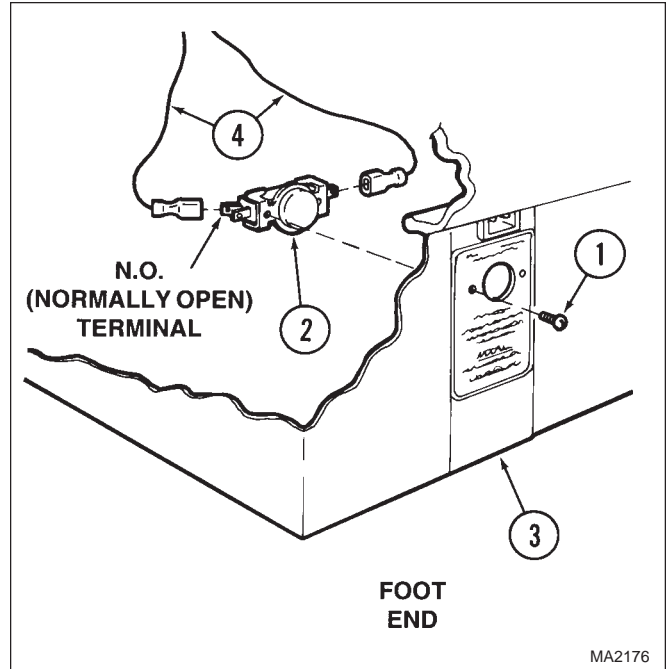

Figure 4-53. Emergency COMPUTER CONTROL OVERRIDE SWITCH Removal / Installation
- (1) If possible, operate the surgery table to raise the table top as high as it will go.
- (2) Lower the bellows assembly (Refer to para 4-3).
- (3) Disconnect all electrical power from the surgery table.
- (4) Remove two screws (1, Figure 4-53) and partially separate Emergency COMPUTER CONTROL OVERRIDE SWITCH (2) from electrical panel (3).
- (5) Tag and disconnect two wires (4) from terminals of Emergency COMPUTER CONTROL OVERRIDE SWITCH (2) and remove switch.